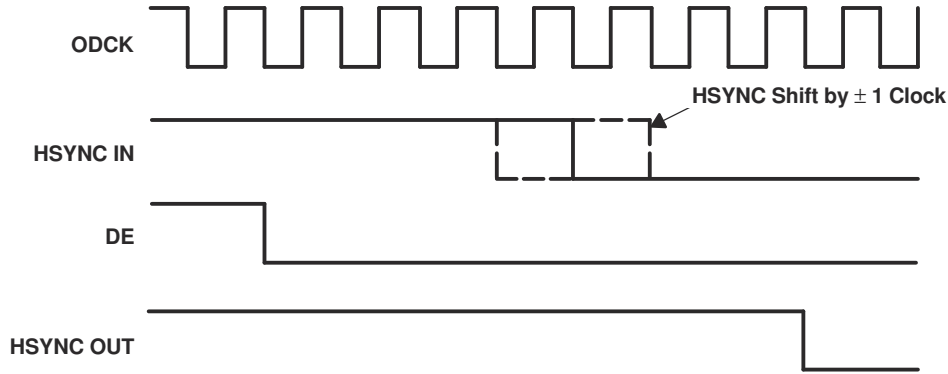

图 7-3. HSYNC Regeneration Timing Diagram
The TFP401A-Q1 integrates HSYNC regeneration circuitry that provides a seamless interface to these noncompliant transmitters. The regeneration circuitry always fixes the position of the data enable (DE) signal in relation to data, irrespective of the location of HSYNC. The TFP401A-Q1 receiver uses the DE and clock signals to recreate stable vertical and horizontal sync signals. The circuit filters the HSYNC output of the receiver and shifts HSYNC to the nearest eighth bit boundary, producing a stable output with respect to the data, as shown in Figure 7-3. This ensures accurate data synchronization at the input of the display timing controller.